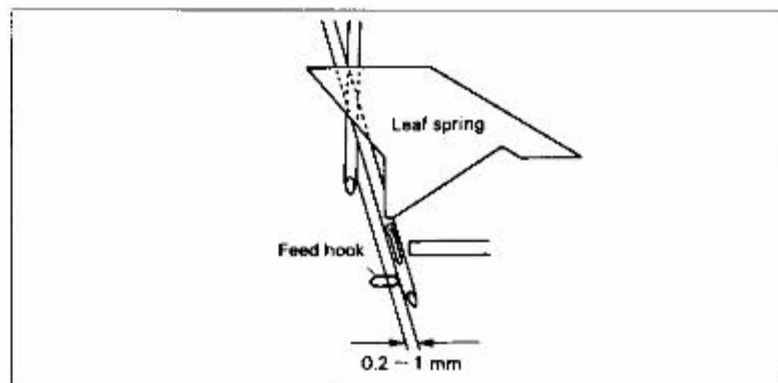

Fig. 5-9
- 3-3. By referring to Fig. 5-9, adjust the feed hook so as to have a gap of 0.2 ~ 1 mm between the crossed catch needles.